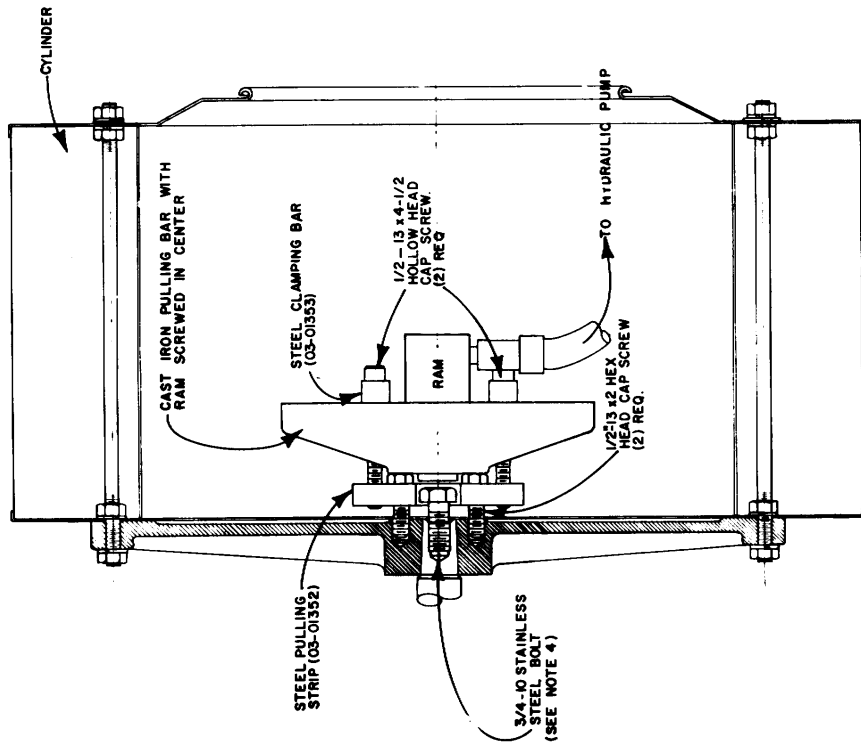

Figure 6
- 7) Pump the Porta-Power to 4,750 psi (5 tons) for 30015 or 9,500 psi (10 tons) for the 30022 machines. Figure 6